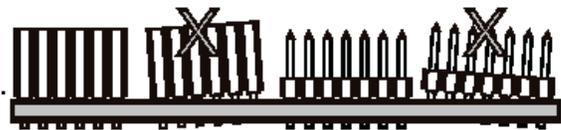

Figure 1
With the exception of some transistors (e.g. TO-92), unless otherwise specified, all components should be pressed down flush with the surface of the PC board as far as they will go. **Figures 1 & 2** show both the right and wrong (X) ways to mount individual components and sockets. When installing ICs and sockets, solder only *one* lead. Check the positioning of the device (reheat the joint and re-seat the device if necessary) and then proceed to solder the remaining pins once you are satisfied that the device is properly seated against the PC board. *Before* a wire-lead component is inserted into the PC board, component leads should be formed, using your fingers or long-nose pliers, to fit into the PC board holes.